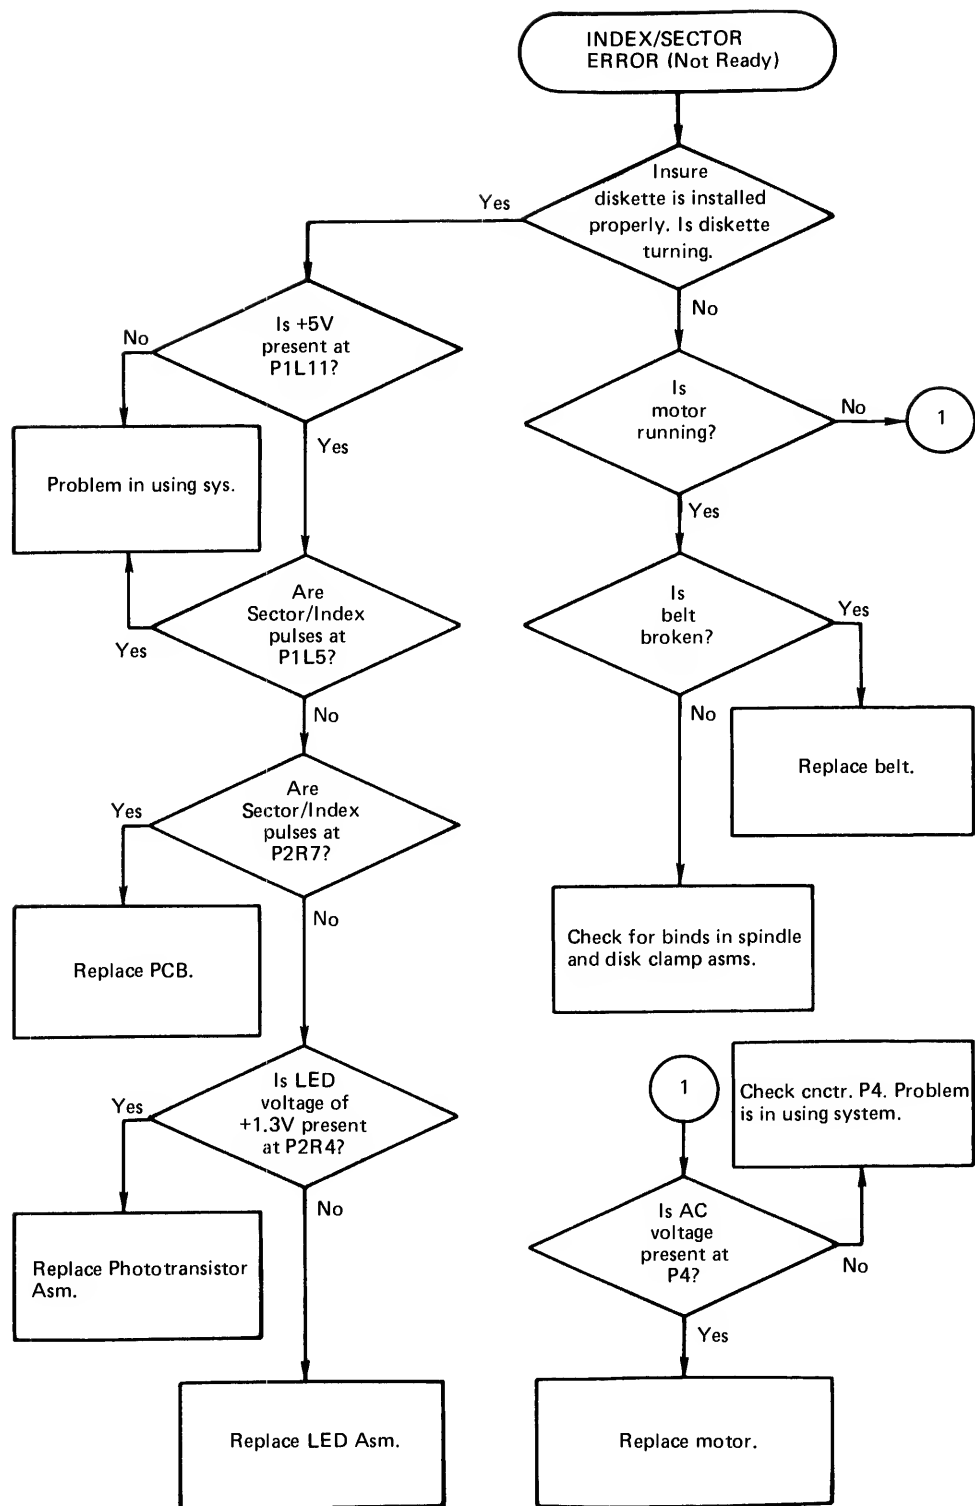

Figure 1D
3.2.6 Index/Sector Error (Not Ready) (Reference Figure 1D)